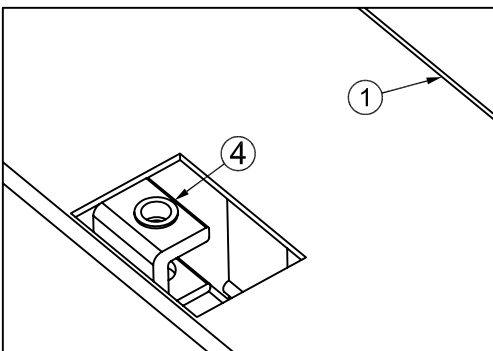

Fig. 4
5. Position J-hook (#4) under opening in toolbox (#1) closest to cab. (See Fig. 4)